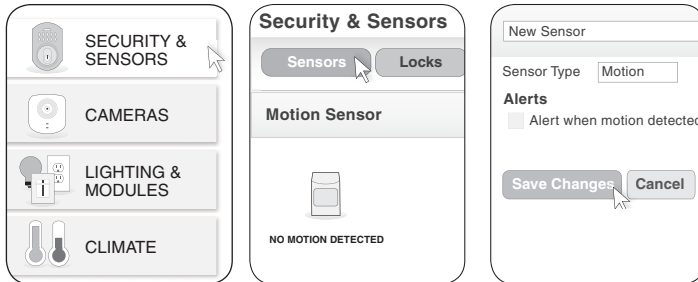

Figure 1
- c. Click on “Security & Sensors”, then “Sensors”, then “Setup Device”. (See Figures 1 – 3 below.)